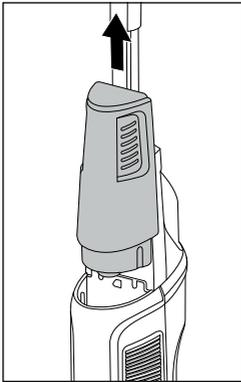

Fig. 6
- ◆ Grasp the fresh water tank **11** by the gripping grooves on the side and pull it upwards out of the appliance (see fig. 6).